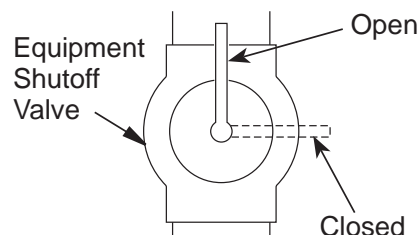

Figure 15 - Equipment Shutoff Valve
1. Close equipment shutoff valve (see **Figure 15**).
1. Open equipment shutoff valve (see Figure 15, Page 15).